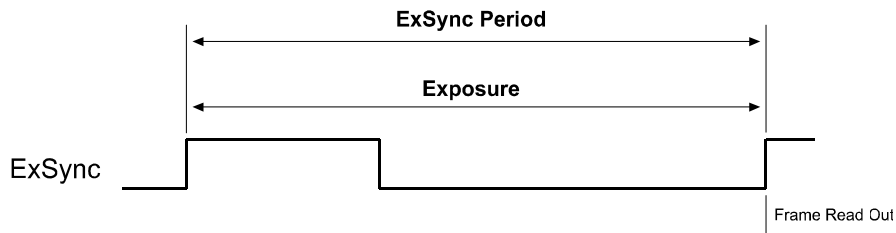

Figure 3-3: ExSync Edge-Controlled Mode
- In **ExSync edge-controlled mode**, the pixels are exposed and charge is accumulated over the full period of the ExSync signal (rising edge to rising edge). The falling edge of the ExSync signal is irrelevant. The frame is read out and transferred on the rising edge of ExSync (see Figure 3-3).